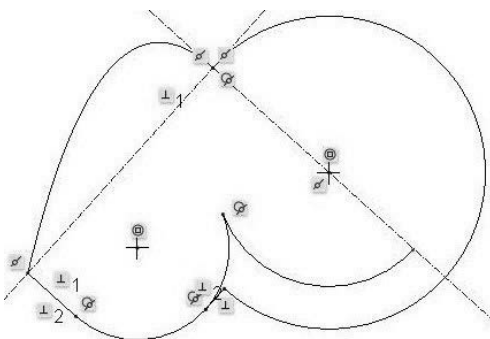

Figure 3-37 Tangent and Divide
- Step 40:** Remove the unwanted lines as shown in Figure 3-37. Use the *undo* tool, , if you accidentally erase the wrong line segment.
- Step 41:** Figure 3-37 is a bit weird looking, but it does demonstrate the use of some of sketcher's tools. Draw an imaginary box around the figures, then press the <Delete> key to clear the screen.